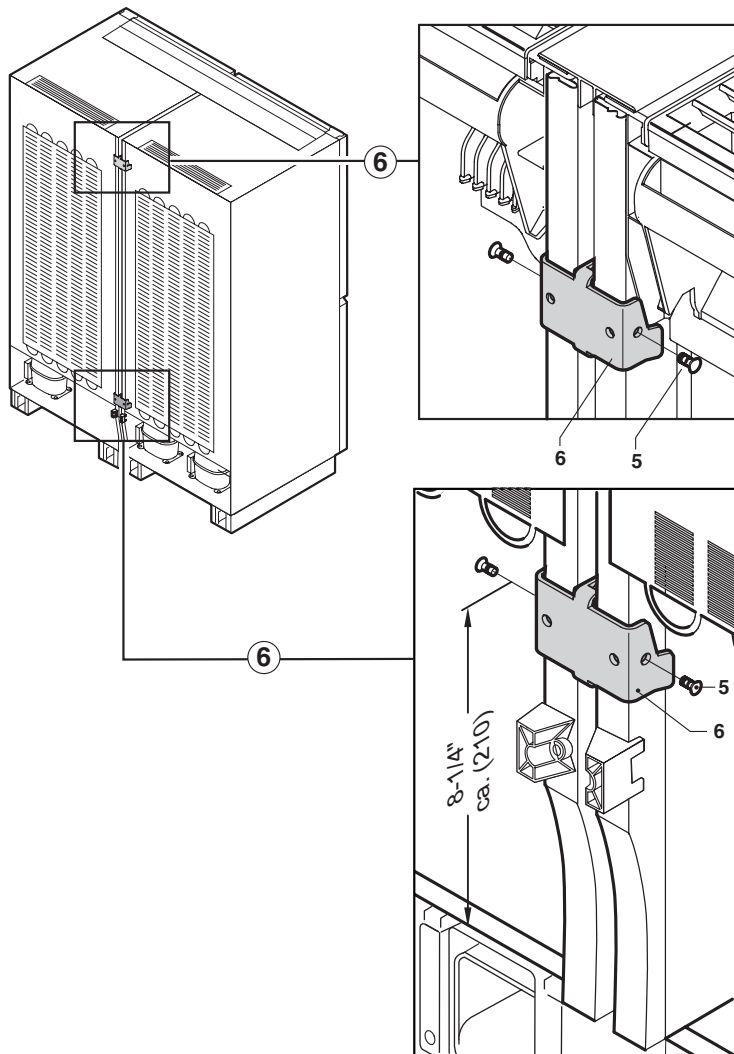

Figure 26
5. **Figure 26:** Secure the installation frame (3) at the top to the appliances with screws (2).
- Use the predrilled holes to align the installation frame (2).
- First mount the installation (3) frame with 4 screws (2) to one appliance, then align the other appliance with the predrilled holes to the installation frame (3) and secure it with the screws (2).
6. **Figure 26:** Position the attachment brackets (6) at the rear of the appliances at the top and bottom. Slide the upper attachment bracket upwards as far as possible. Secure it at the side using the screws provided (5). Do not overtighten!